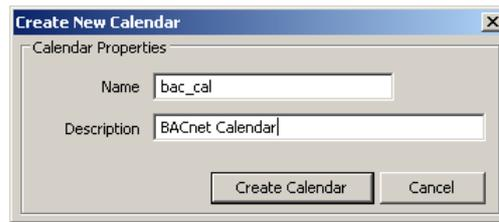

Figure 102: Create New Calendar dialog box.
3. In the Create New Calendar dialog box (as shown in Figure 102) enter Name and Description of the calendar.